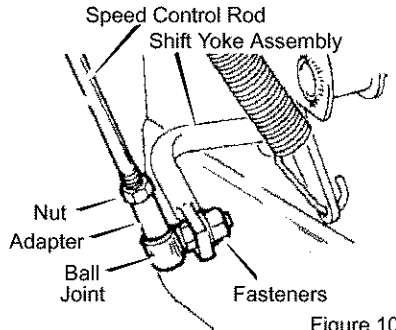

Figure 10
4. Attach the **ball joint**, located on the bottom end of the **speed control rod**, to the **shift yoke assembly**. See Figure 10. The **fasteners** are attached to the **ball joint** at the factory.